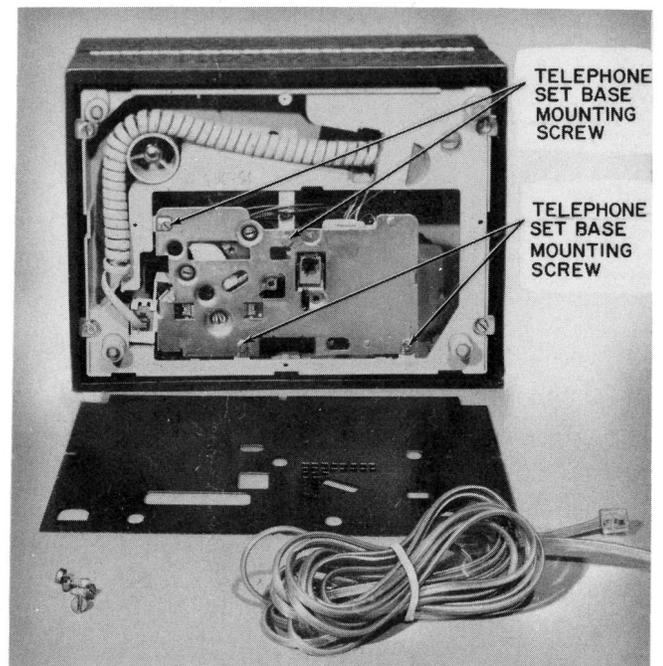
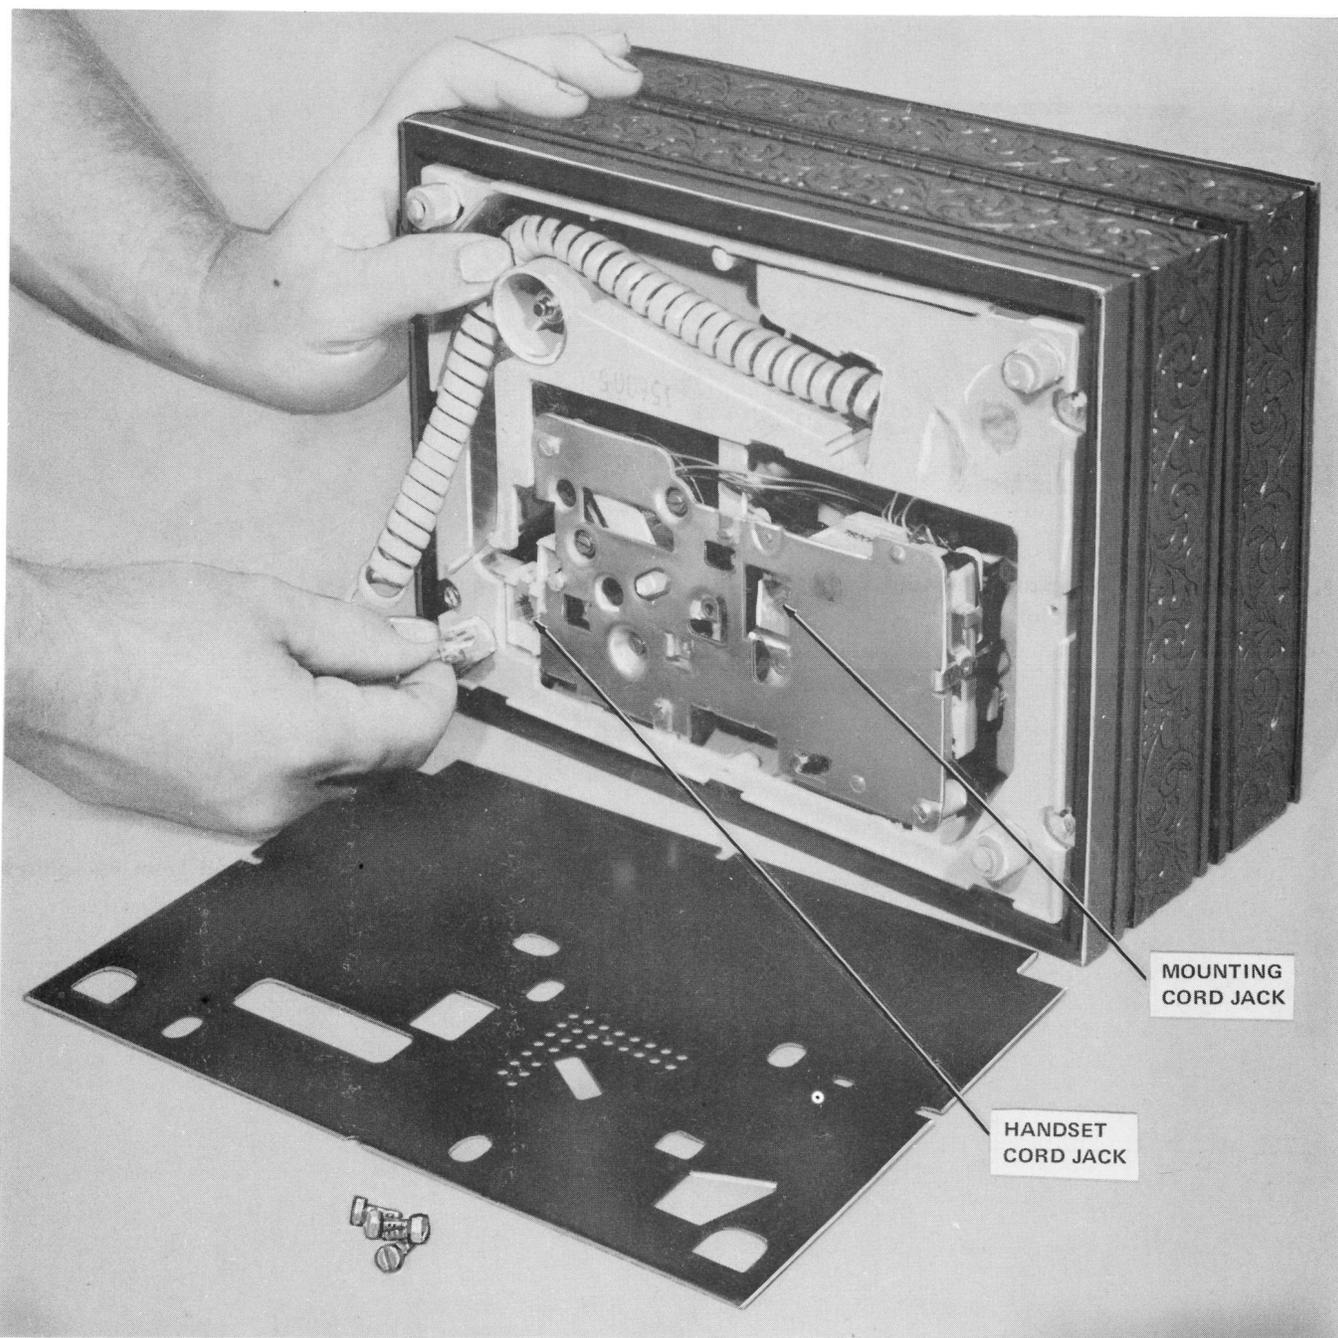

Fig. 5—881C- or 2881C-Type Telephone Set With Bottom Cover Removed
Fig. 7—Location of Handset and Mounting Cord Jacks
- (2) Disconnect base end of handset cord (Fig. 7).
- (3) Pull cord, attached to the handset, out through the top of the telephone set base.
- (4) Remove four telephone set base mounting screws and withdraw the base (Fig. 5).